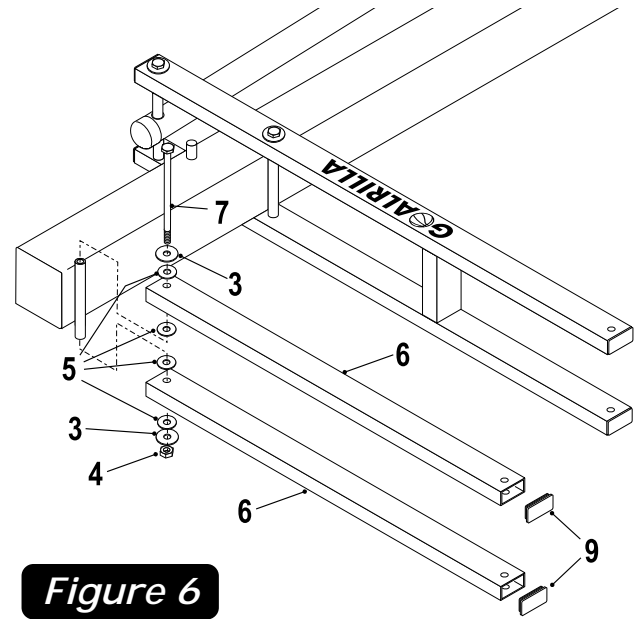

Figure 6
- Attach Upper Arms (#6) to Pole (#2), as shown in Figure 6, using a bolt (#7), two flatwashers (#3), four plastic washers (#5) and hex nut (#4). Tighten bolts snug but, do not over tighten. Board Arms must pivot freely.